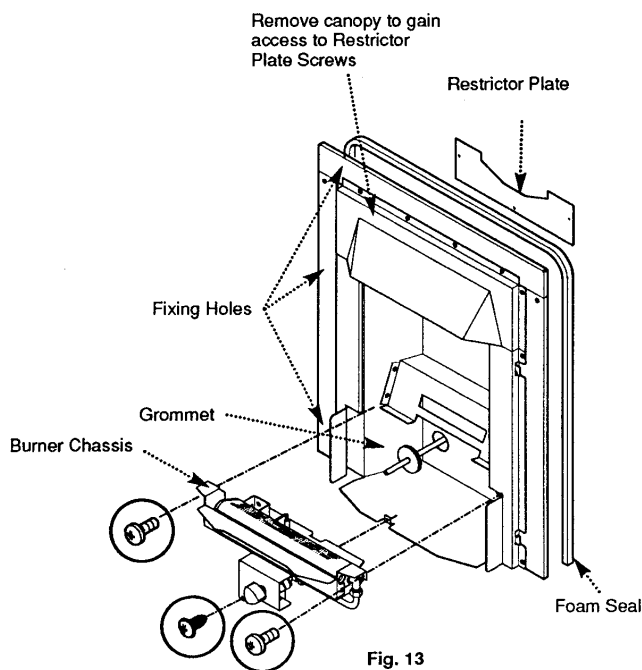

Fig. 13
1. **If the fire is to be fitted in a flue box or a 5 inch lined flue, remove the restrictor plate from the rear of the appliance** (Fig. 13). To remove the restrictor plate, first remove the canopy to gain access to the screws. Remove restrictor plate, and replace the canopy taking care not to damage any painted surfaces.
a) With the fire pushed onto the fireplace opening in the correct level position, mark the four holes in the wall through the fixing holes in the firefront. Remove the fire, drill and plug the wall (Fig. 13).
5. Take the foam seal from the kit and remove it's backing strip. Fit it to the rear of the fire frame ensuring the seal is applied in the correct position as to allow no spillage of products through the screw securing holes (Fig. 13).
6. Undo the three screws retaining the burner chassis to the combustion box sides and base. Withdraw the burner chassis from the fire and place to one side (Fig. 13).